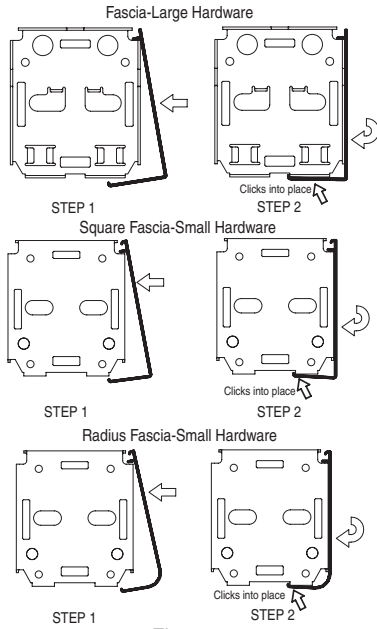

Figure 11
- ⑳ Install fascia. Place groove along top of fascia over endcaps, and snap into place (see Fig. 11). **Fascia is not fully seated until it clicks into place on both ends. Once in place, check for secure fit.**